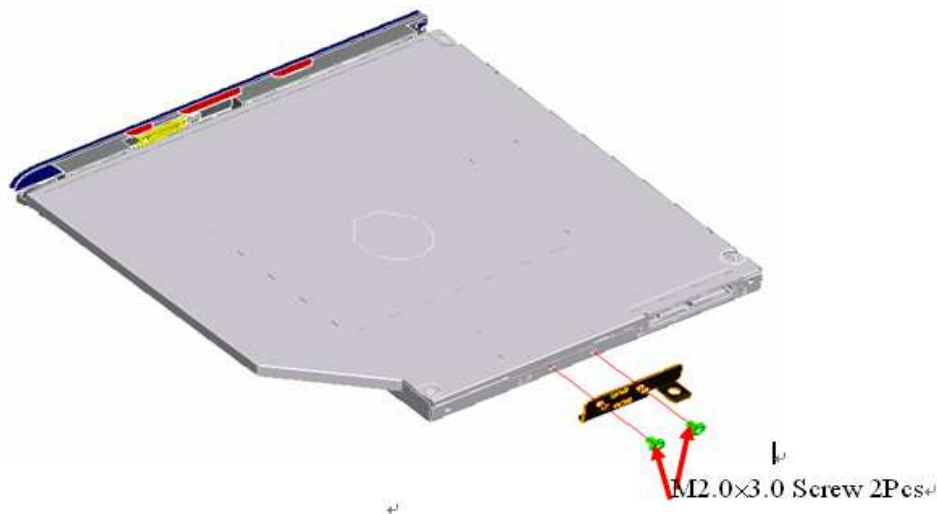

Figure 4-4-2 Secure the ODD drive with the following screw
4. Loose the ODD bracket to from an optical disk drive (See Figure 4-4-2)
1. Attach the ODD bracket to an optical disk drive and secure it with the following screws. (See Figure 4-4-2)